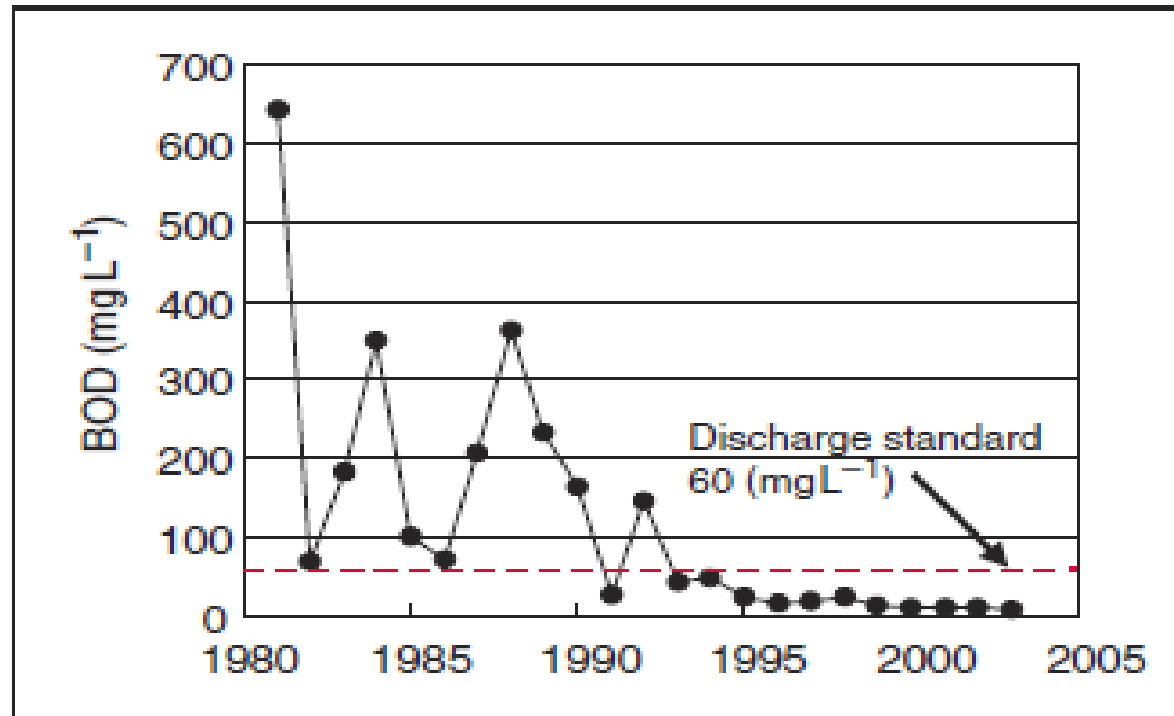

Figure 1. BOD concentration of raw leachate routinely monitored at the leachate treatment facility.
- BOD was not measured which is the key stabilization parameter vs. Figure 1 results.
- Figure 1 leachate BOD data were not viewed as representative of MSW stabilization; hence, a poor indicator of **true stabilization**.
- Leachate dilution masks **true stabilization** quality but Figure 1 type data (BOD et al) is the **true leachate** which impacts health & environment.